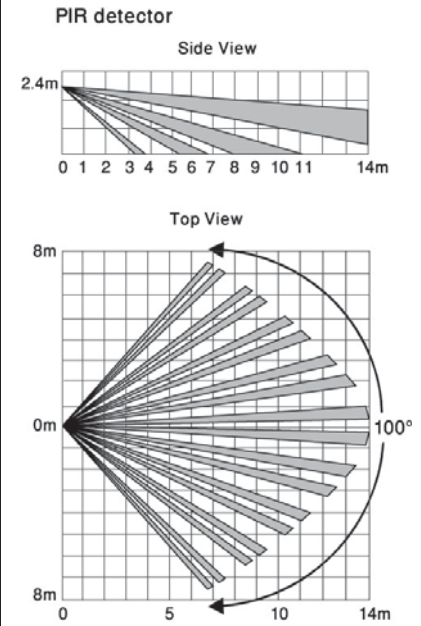

Figure 2: Lens Coverage
- Walk Test Mode:** A walk test is performed in order to determine the lens coverage pattern of the detector – see Figure 2. Walk Test mode cancels the delay time between detections, enabling you to perform an efficient walk test.